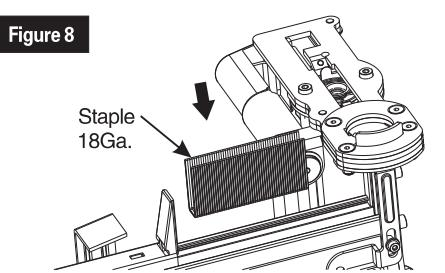

Figure 8
3. Load a strip of staples in the magazine. This tool is a BOTTOM loading stapler! (See figure 8)
4. Push the Inner magazine(F) forwards until the Latch button(E) pops up.